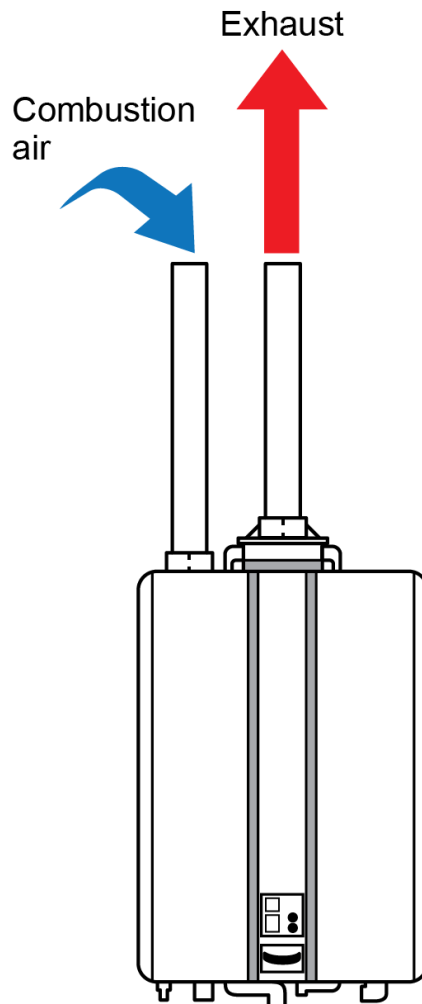

Figure 6 Two-pipe direct vent gas appliance.
For a direct vent system, all air for the appliance is taken directly from the outside and the flue gas is discharged to the outdoors. Therefore, the direct vent appliance will have no effect on the air balance of the building (Figure 6).
- **Figure 6** Adapted diagram (<https://www.rinnai.ca/system/files/2019-06/100000504-N%2520Series%2520Commercial%2520Condensing%2520Installation%2520and%2520Operation%2520Manual.pdf>) by Trades Training BC from Rinnai Corporation (2019) and is used with permission.